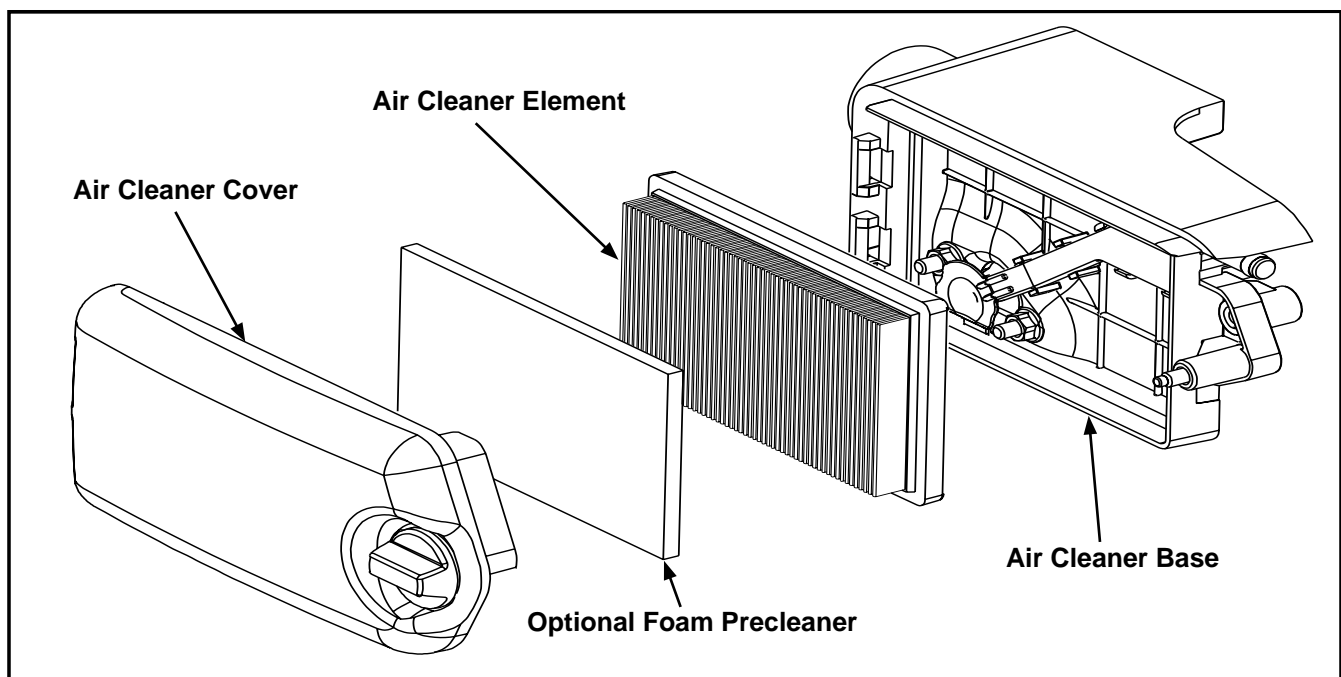

Figure 4-1. Air Cleaner Assembly (Exploded View).
This engine is equipped with a replaceable, high density paper air cleaner. An optional foam precleaner may also be included. See Figure 4-1. Intake air is drawn in through the blower housing, and passes through the precleaner (if equipped), the paper element and then into the carburetor. The outer air cleaner cover is secured by one knob, and removed by turning the knob counterclockwise.
Check the air cleaner assembly **daily or before starting the engine**. Check for any buildup of dirt and debris, as well as loose or damaged components. See Figure 4-1.
1. Loosen the air cleaner cover knob and remove the cover. See Figure 4-1.
1. Loosen the air cleaner knob and remove the cover. Remove the paper air cleaner element and the precleaner (if equipped). See Figure 4-1.